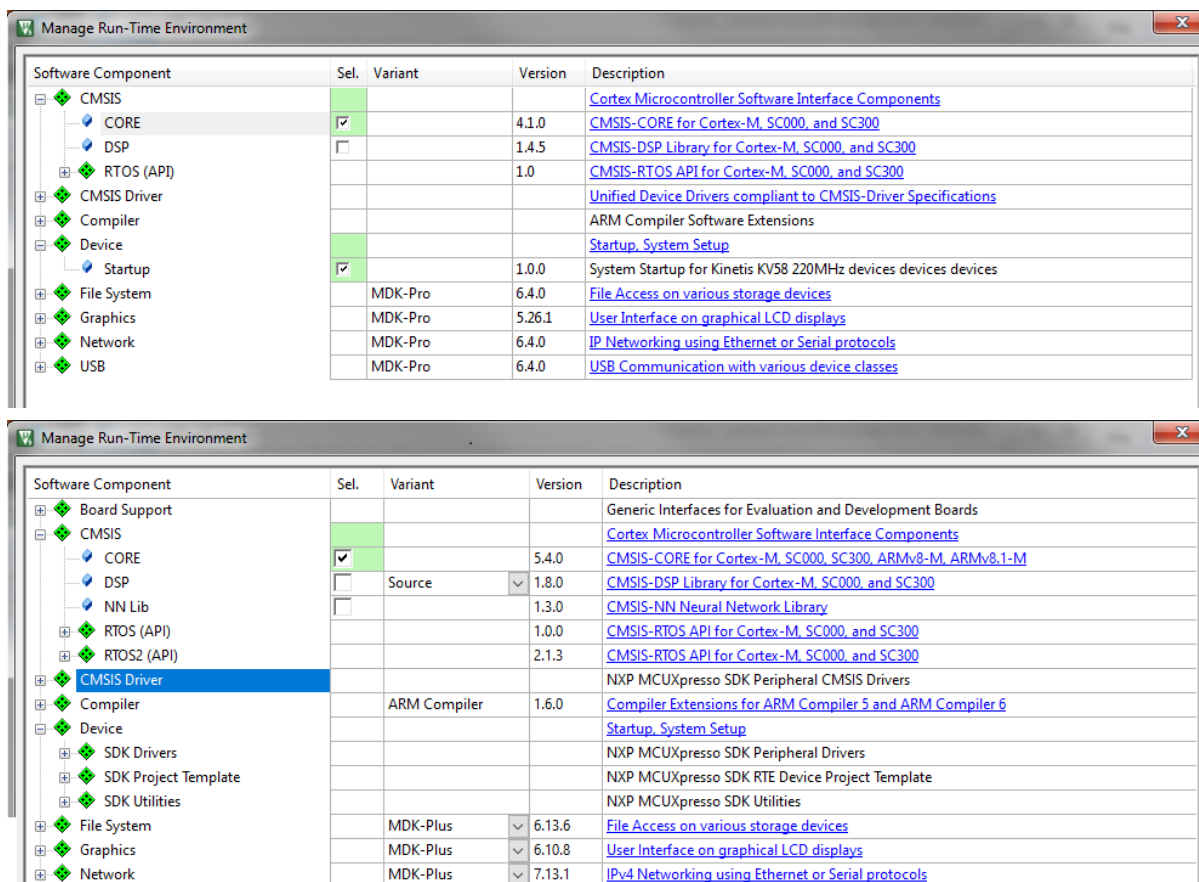

Figure 1-17. Manage Run-Time Environment dialog
8. In the next dialog, expand the Device node, and tick the box next to the Startup node. See Figure 1-17.